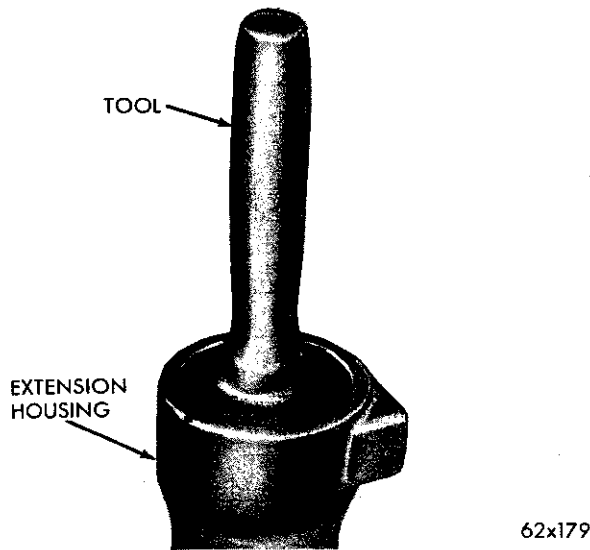

Fig. 38—Installing Output Shaft Bearing
(3) Place a new bearing in the opening of the extension housing. Using Tool C-3204 drive the bearing into the housing (Fig. 38). Install the bearing retaining snap ring.